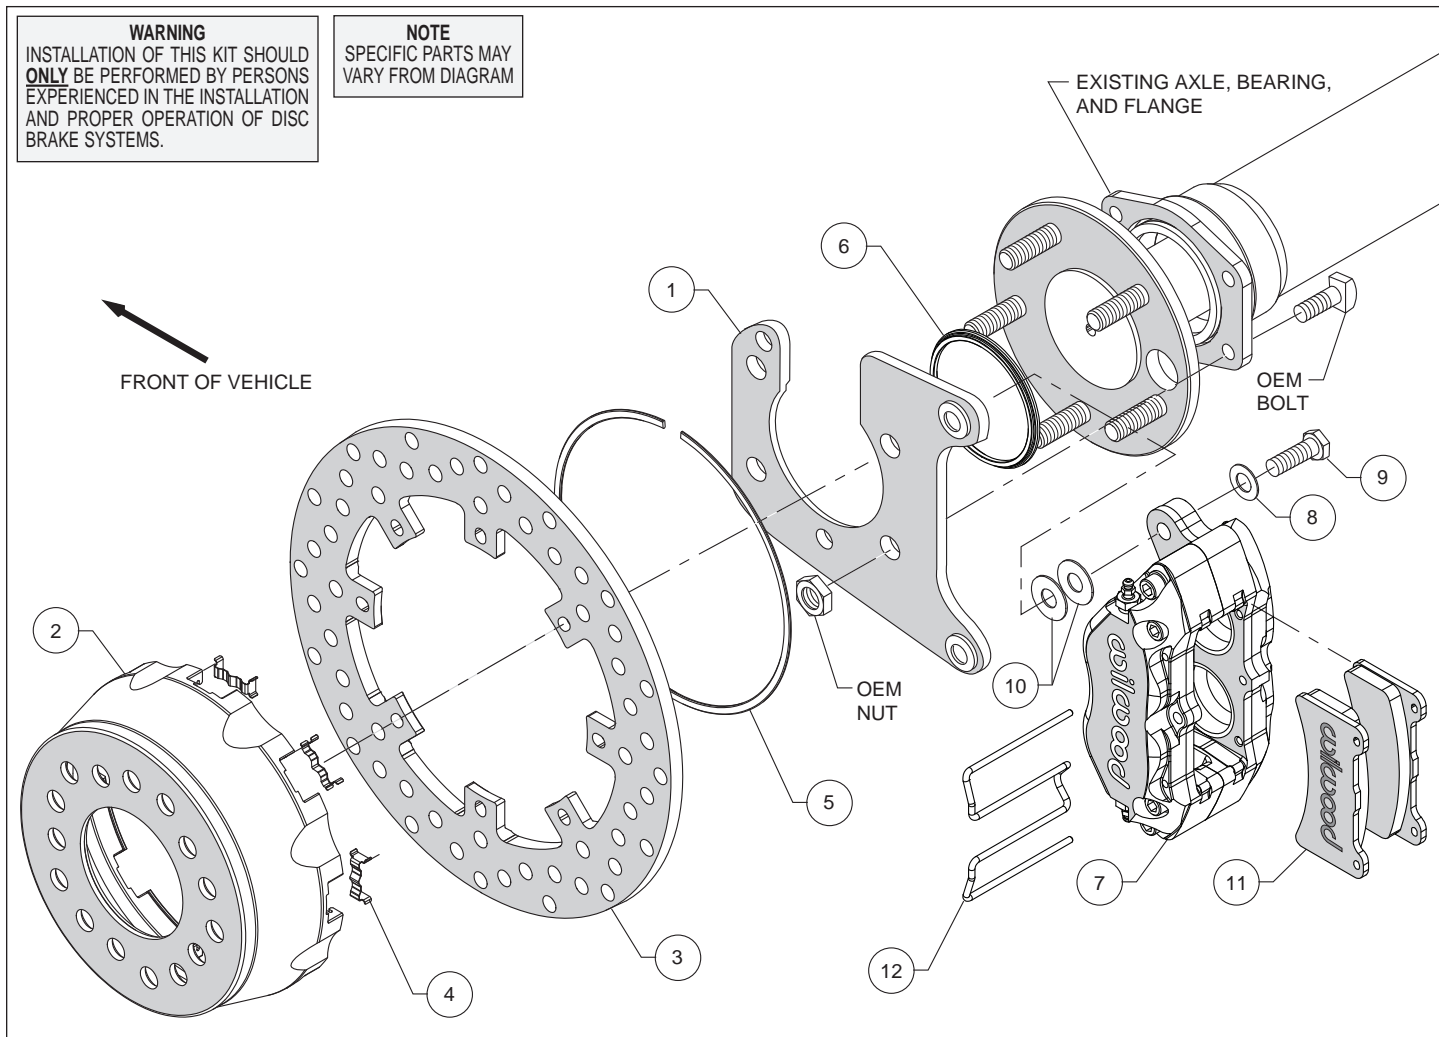
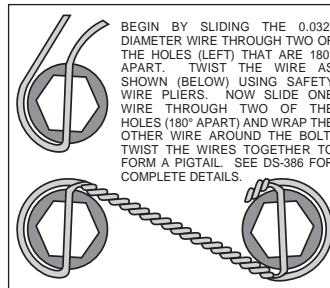
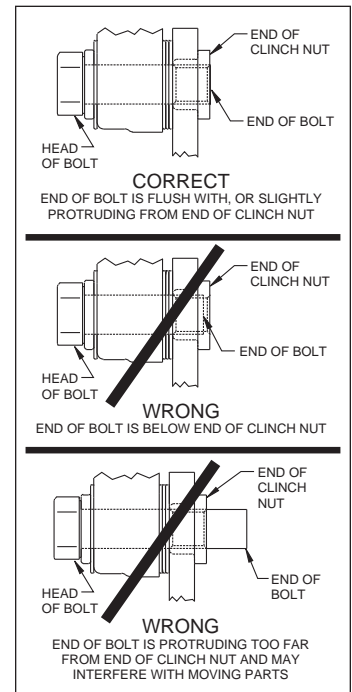

Figure 1. Typical Installation Configuration
Figure 4. Safety Wire Diagram
Figure 5. Clinch Nut Engagement Diagram
**Assembly Instructions** (numbers in parenthesis refer to the parts list and Figure 1 on the preceding pages): **CAUTION:** All mounting bolts must fully engage clinch nuts. Be sure to check that all bolts are either flush or protruding through flanged side of clinch nut after shiming, Figure 5.
- Install the caliper mounting bracket (1), with the slot for the axle pointing upward, to the housing flange using the OEM bolts and nuts, as shown in Figure 1 and Photo 1. Ensure that the heads of the clinch nuts are facing outboard, Photo 1. Apply red *Loctite*® 271 to the OEM bolt threads and torque to OEM specifications.
- Insert the dynamic mount wear plates (4) into the slots in the hat (2) making sure the tabs snap in place, Photo 2. Orient the rotor (3) as shown in Figure 1 and Photo 3, with the flush mount tab side facing the hat. Attach the rotor to the hat using snap ring (5) by pushing down on the rotor and installing the ring into the groove in the hat, as shown in Photo 4. Ensure that the ring is fully engaged in the groove.
- Slide the rotor registration adapter (6) onto the axle register on the axle flange with the smaller O.D. facing toward the hat (2), Photo 5. Align the correct hole pattern in the hat with the axle stud pattern and slide the hat/rotor assembly onto the axle hub. **NOTE:** The hat must fit flush against the axle flange or excessive rotor run out may result. Install three lug nuts (finger tight) to keep the hat/rotor in place while continuing with the installation. **NOTE:** Some OEM and aftermarket axles come with stud sizes larger than 0.50" diameter. Verify stud size, and if necessary, have a qualified machine shop drill the hats to the correct size.
- NOTE:** Please reference the caution statement at the beginning of the assembly instructions. Mount one caliper (7) onto the mounting bracket (1) using bolts (9) and washers (8), as shown in Figure 1. Initially place two .035" thick shims (10) on each bolt between the caliper and the bracket, Photo 6. Temporarily tighten the mounting bolts and view the rotor (3) through the top opening of caliper. The rotor should be centered in the caliper, Photo 7. If not, adjust the caliper by adding or subtracting shims between the bracket and the caliper. Always use the same amount of shims on each of the two mounting bolts. **NOTE:** The end of each bolt must be flush with or slightly protruding from the head of the clinch nut. If necessary, place spare shims between washer and caliper mounting ear to achieve the proper clinch nut
engagement, as shown in Figure 5. Once the caliper alignment and clinch nut engagement are correct, remove the bolts one at a time, apply red *Loctite*® 271 to the threads, and torque to 40 ft-lb. For an added measure of security, the bolts may be safety wired using standard 0.032 inch diameter stainless steel safety wire as shown in Figure 4. Please refer to Wilwood's data sheet DS-386 (available at [www.wilwood.com/Pdf/DataSheets/ds386.pdf](http://www.wilwood.com/Pdf/DataSheets/ds386.pdf)) for complete safety wire installation instructions. Repeat this procedure for the second caliper.